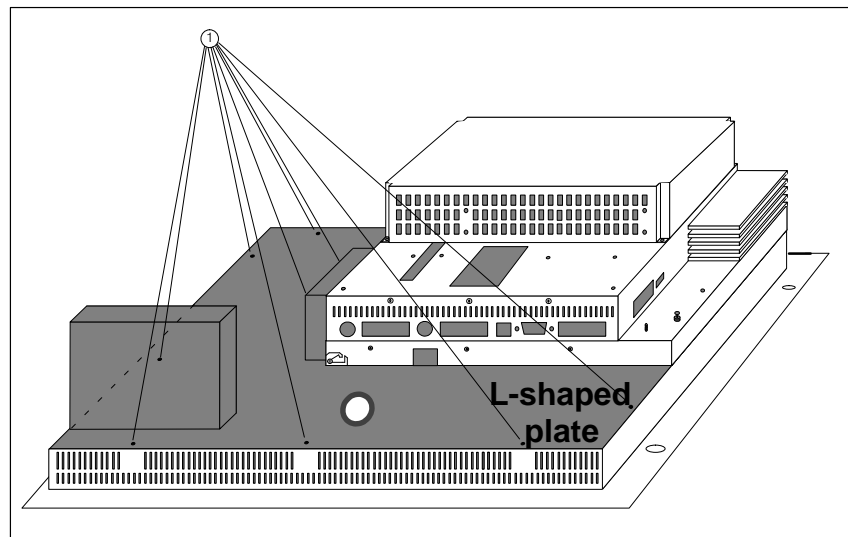

Figure 6-7 Removing the L-shaped plate.
2. Release the nine screws marked in Figure 6-7 with the number ① from the L-shaped plate; two of them are on the cover plate next to the PCMCIA slot.
3. Remove the L-shaped plate shaded grey in Figure 6-7.
Folding out PC box To replace the hard disk, the PC box must be folded out after the L-shaped plate has been removed (see Figure 6-7).